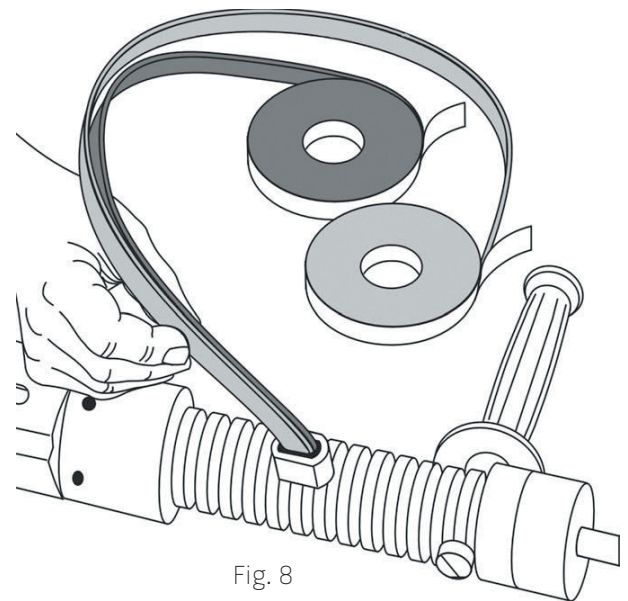

Fig. 8
- ⇒ Refer to the enclosed "T2 Compound Repair System". (figure 8)